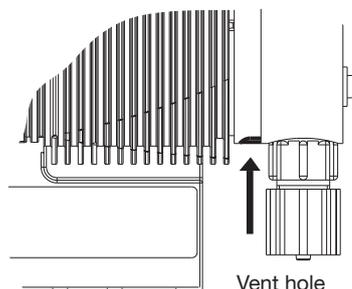

Fig. 20
- ▶ Check that the liquid end is generally watertight (especially vent hole! See fig. 20)
- **The leakage hole must point downwards when the pump is fully assembled (see fig. 20).**
- **Position the top plate (4) correctly on the pump housing (6). Do not distort the top plate on the pump housing, otherwise the safety diaphragm (5) will not fit.**
- ▶ Lay the diaphragm (3) into the top plate (4).
- ▶ Hold the top plate (4) and screw the diaphragm (3) in a clockwise direction until it is firmly in position (you will feel the resistance of the return spring).